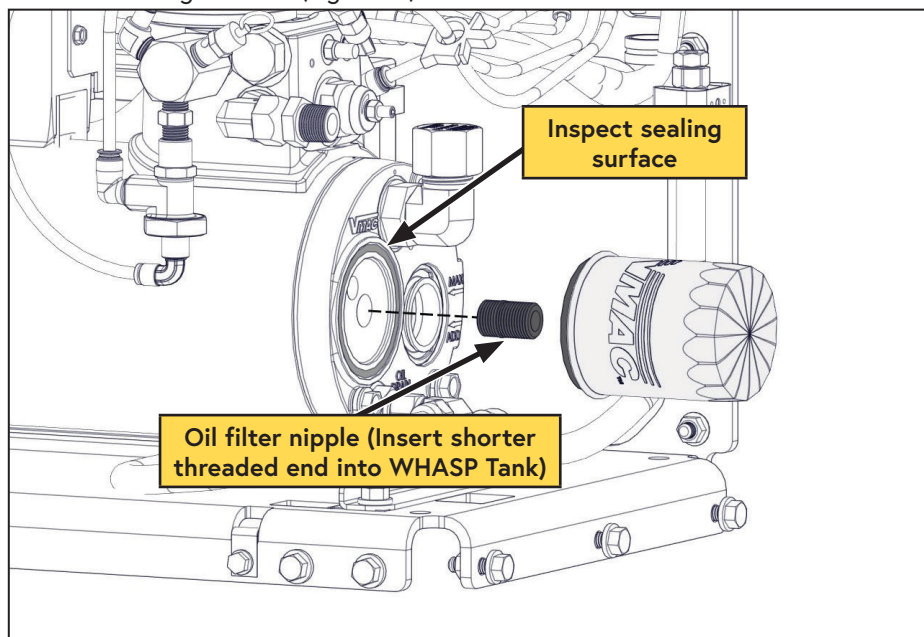

Figure 32 — Compressor oil filter
- ☐ *To reinstall the nipple, thoroughly clean the threads and apply Loctite 242 (blue) to the end with the short threads and replace it in the AOST (Figure 32).
- ☐ Clean the gasket sealing surface on the front of the tank and inspect it for damage. The surface must be free of old gasket material and smooth to ensure a good seal. (Figure 32).